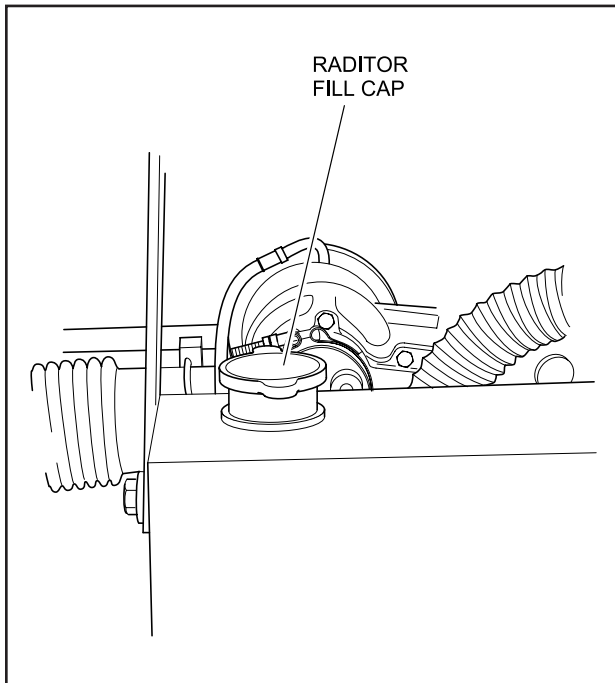

FIGURE 4-2. ENGINE RADIATOR FILL CAP
1. Open the access door to access the radiator cap (see Figure 4-2).